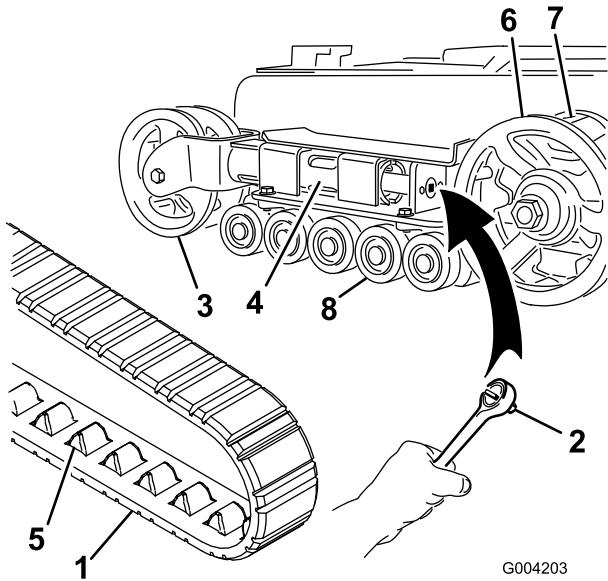

Figure 46
4. Using a 1/2 inch drive socket (Figure 46), turn the tensioning screw counter-clockwise until the distance between the tension nut and the back of the tension tube (Figure 44) is 2-3/4 inches (7 cm).
4. Using a 1/2 inch drive socket, release the drive tension by turning the tensioning screw clockwise (Figure 45 and Figure 46).
5. Push the tension wheel toward the rear of the unit to move the fork tube against the frame (Figure 46). (If it does not touch the frame, continue turning the tensioning screw until it does.)
7. When the track is off of the tension wheel, remove it from the drive sprocket and road wheels (Figure 46).
8. Beginning at the drive sprocket, coil the new track around the sprocket, ensuring that the lugs on the track fit between the spacers on the sprocket (Figure 46).
9. Push the track under and between the road wheels (Figure 46).